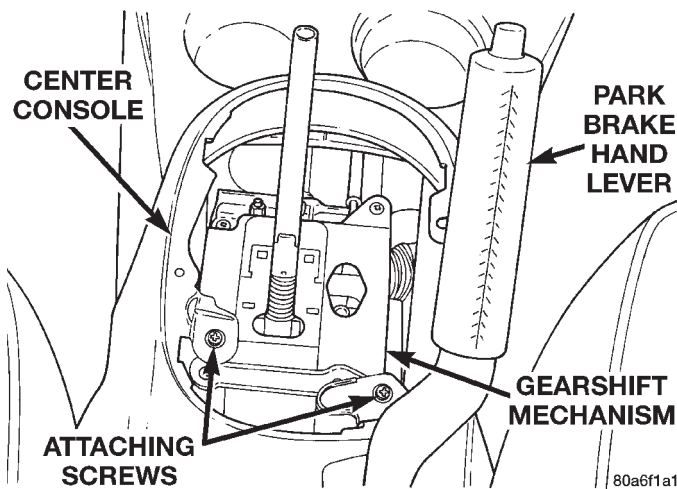
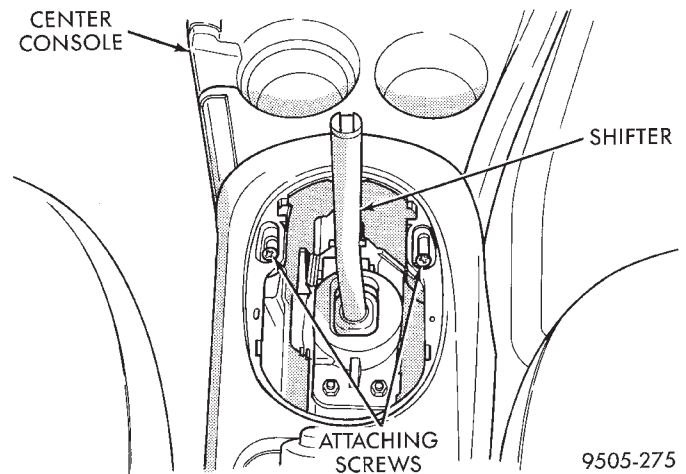

Fig. 148 Center Console Front Attaching Screws (Automatic)
Fig. 149 Center Console Front Attaching Screws (Manual)
- (4) Remove the 2 screws attaching the front of the center console to the gear selector or shifter (Fig. 148) or (Fig. 149).
- (5) Raise park brake hand lever to the mid-position of its travel. This will allow for the required clearance to remove center console.
- (6) Remove center console/arm rest from vehicle.
(17) Check the rear wheels of the vehicle with the park brake lever fully released, they should rotate freely without dragging.
(18) After the park brake cable tension has been properly adjusted, check for free play in park brake lever. Park brake hand lever should feel firm at all clicks, with a maximum of 21 clicks of lever travel possible.
(19) Install the center console back in the vehicle.
(20) Install the 2 screws attaching the front of the center console (Fig. 148) or (Fig. 149).